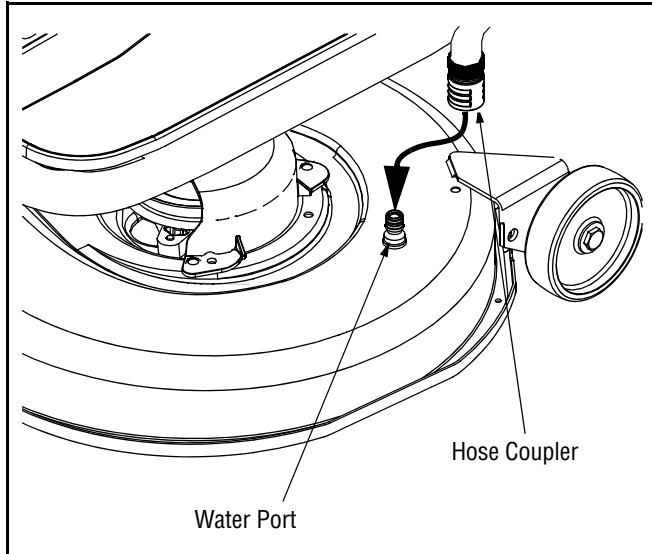

Figure 13
4. Attach the hose coupler to the water port on your deck's surface. See Figure 13.